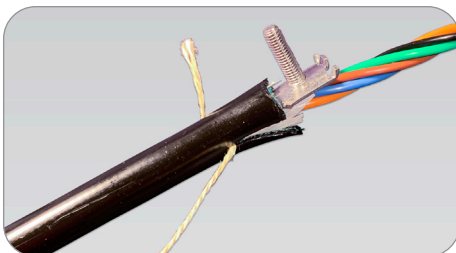

Figure 3
2. Insert connector base between shield directly below the armor layer and core wrap, or inner sheath for double sheath cable, until connector stops meeting the outer sheath. Tap sheath above connector base to set teeth into armor layer providing an electrical path. (Figure 3)